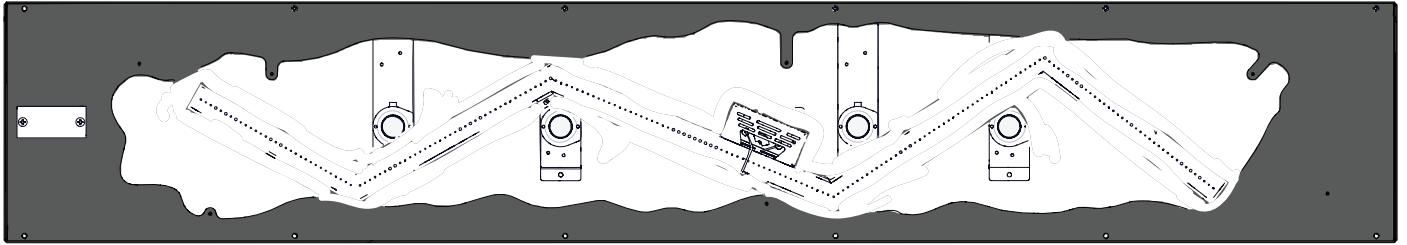

Fig. 3
4. The **splinters** should be placed around the outer portion, over the sheet metal tray. Do not cover burner (**Fig. 3**).